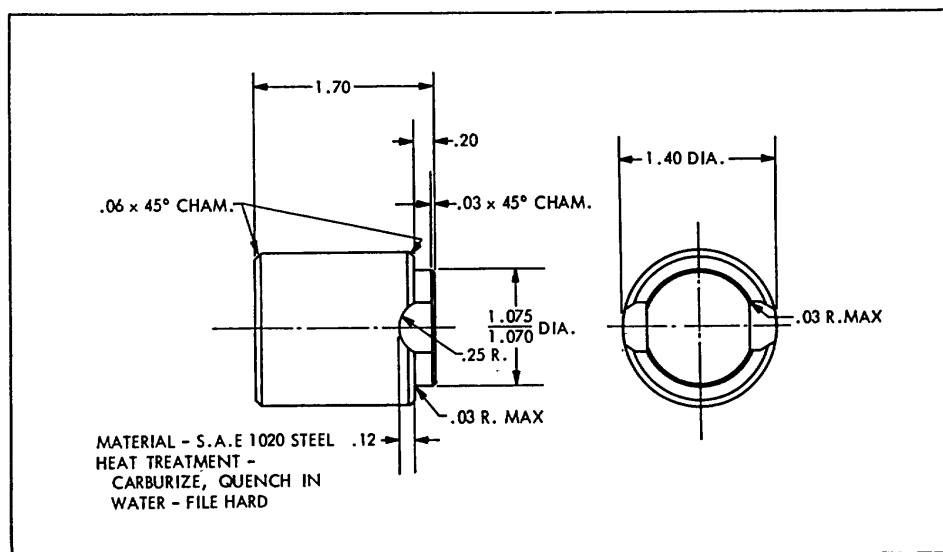

Figure 6-11. Steering Gear Thrust Bearing Retainer Installer Tool Details
2. Lubricate new stub shaft seal with OE-10 engine oil and install far enough to provide clearance for dust seal (47) and retaining ring (50). Lubricate new dust seal with engine oil and install with rubber surface outward. Install retaining ring (50), making certain that the ring is properly seated.
3. Lubricate packing (58) with automotive and artillery grease, MIL-G-10924, and install on adjuster plug. Assemble large thrust bearing race (53), thrust bearing (54), small thrust bearing race (55), and thrust bearing spacer (56) on adjuster plug. Press new bearing retainer (57) into needle bearing bore, using thrust bearing retainer installer, as shown in figure 6-11. If necessary, make installer locally, using figure 6-11 for guidance.